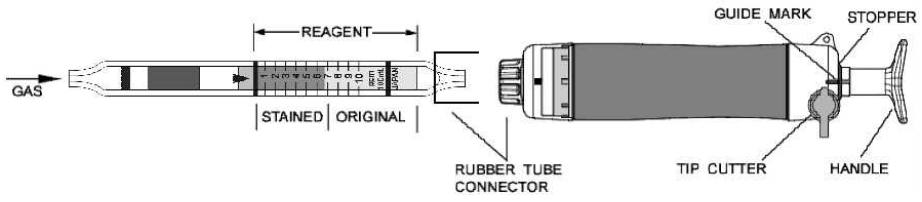

Fig.1
- ① Break both ends of the detector tube.
- ② Insert the detector tube into the aspirating pump securely as shown in Fig.1. (Arrow mark shall point to the pump.)
- ③ Align the guide marks on the shaft and stopper of the aspirating pump.
- ④ Pull the pump handle at a full stroke until it locks and wait for 1.5 minutes or until the completion of sampling is confirmed with the flow indicator of the pump. (See descriptions about the flow indicator in the instruction manual of the pump.)
- ⑤ On completion of sampling, read the scale at the maximum point of the stained layer.
- ⑥ When the concentration is below the scale range, 4 pump strokes can be used to determine concentrations of 0.2 to 2.0 ppm. Then correct the tube reading by correction table. (REFER TO ITEM 3. CORRECTION FOR AMBIENT CONDITIONS AND PUMP STROKE.)
- ① Temperature; Correct the tube reading by following temperature correction table.